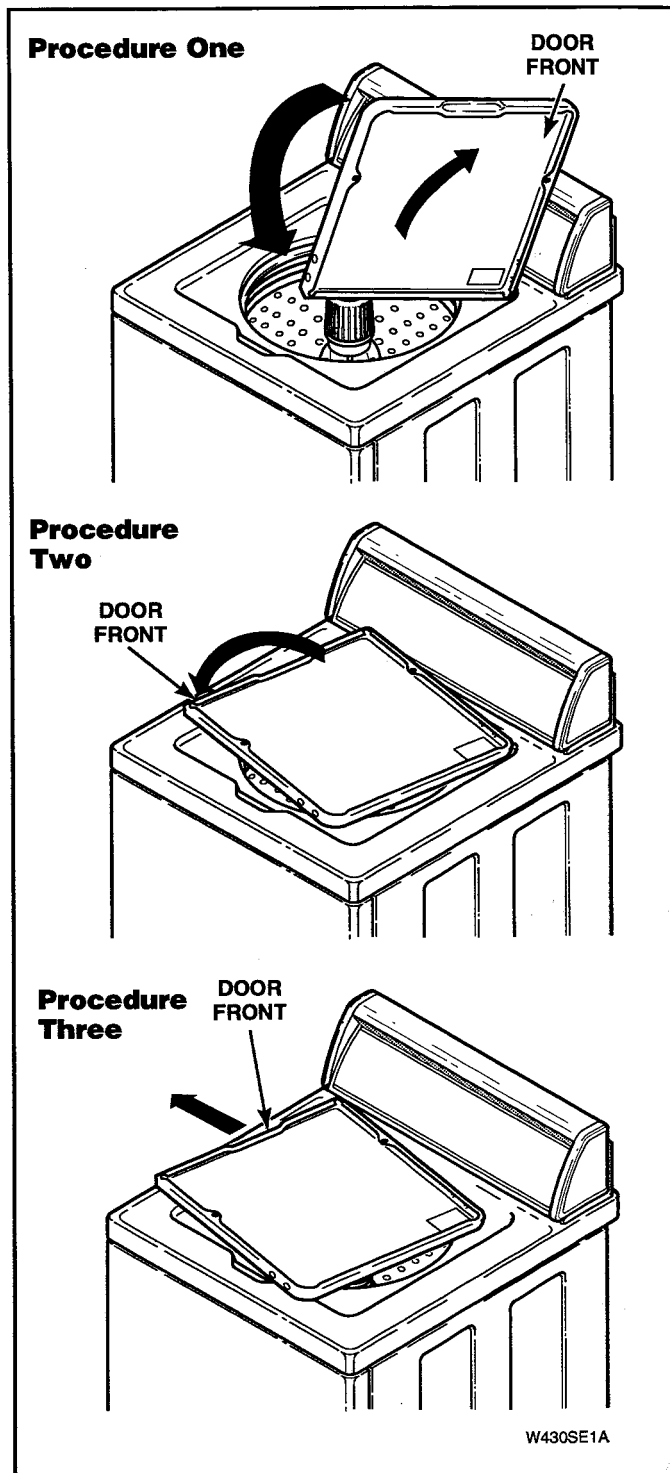

Figure 5-7
- Raise loading door to a nearly vertical position, to disengage loading door from loading door clip, swing left side of door toward front of washer. See Figure 5-7, **procedure one**.
- Rotate loading door so door is upside down. See Figure 5-7, **procedure two**.
- Carefully remove loading door, right hinge and bushing from cabinet top. See Figure 5-7, **procedure three**.